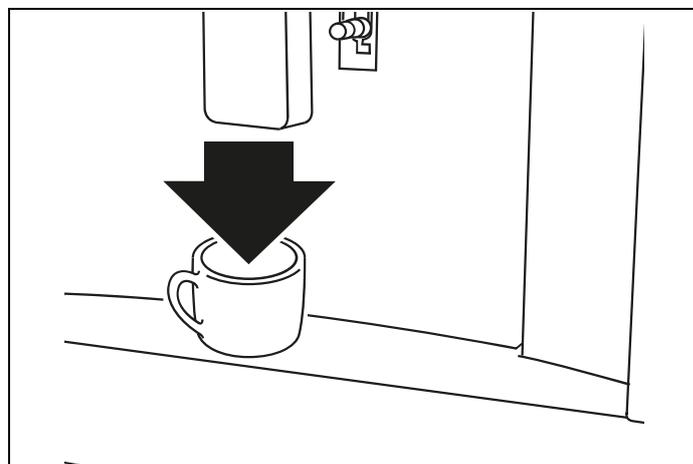

Fig. 25
3) Lower the spout so that it is as near as possible to the cup (Fig. 25): this helps achieve a better cream;
- 4) Place a cup under the coffee spouts **(A13)** (Fig. 25).